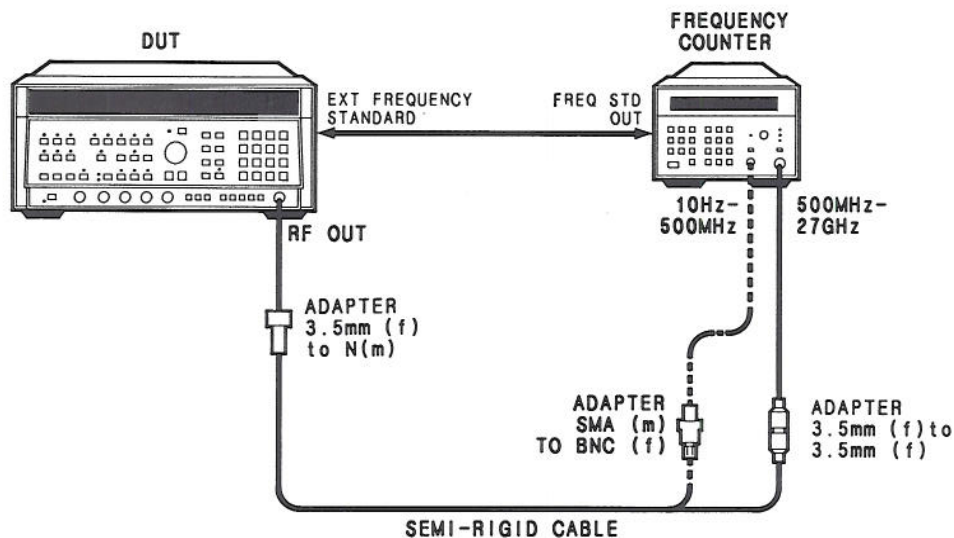

Figure 4-2. Frequency Range Test Setup
1. Connect the equipment as shown in Figure 4-2. Connect the DUT RF Output to the 10 MHz-500 MHz counter input. Allow the equipment to warm up for one hour. The DUT and the frequency counter use the same frequency standard to eliminate time base error from the measurement. Set the DUT's rear panel FREQUENCY STANDARD switch to EXT.